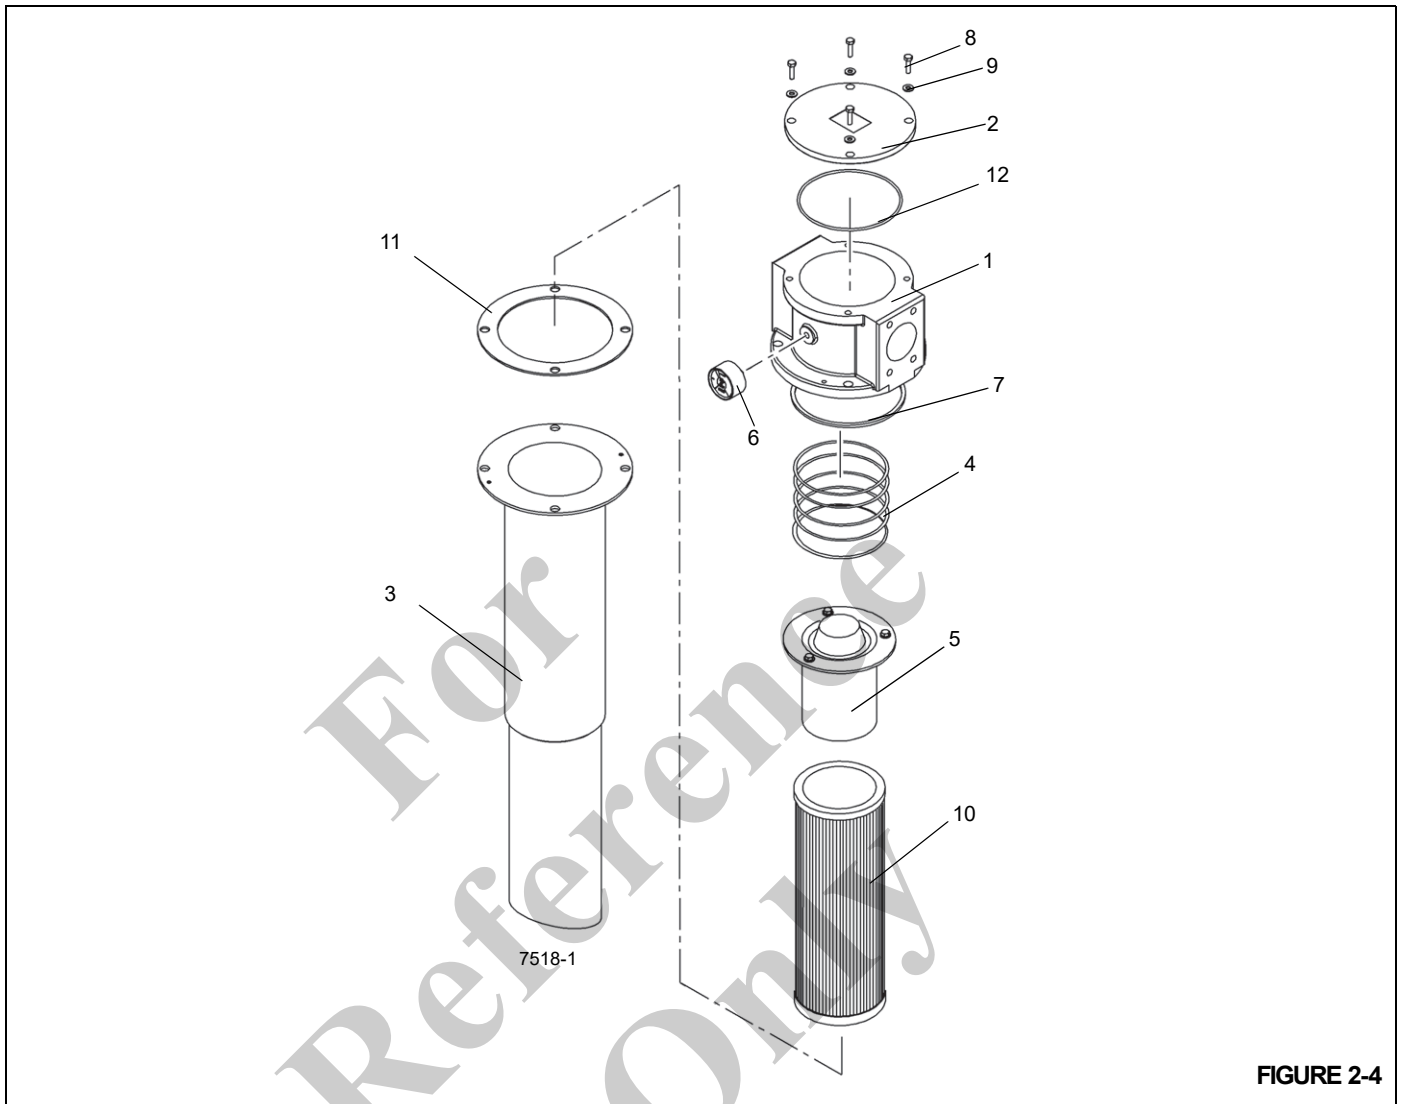

FIGURE 2-4
2. Wipe any dirt from the filter head and cap (Figure 2-4).